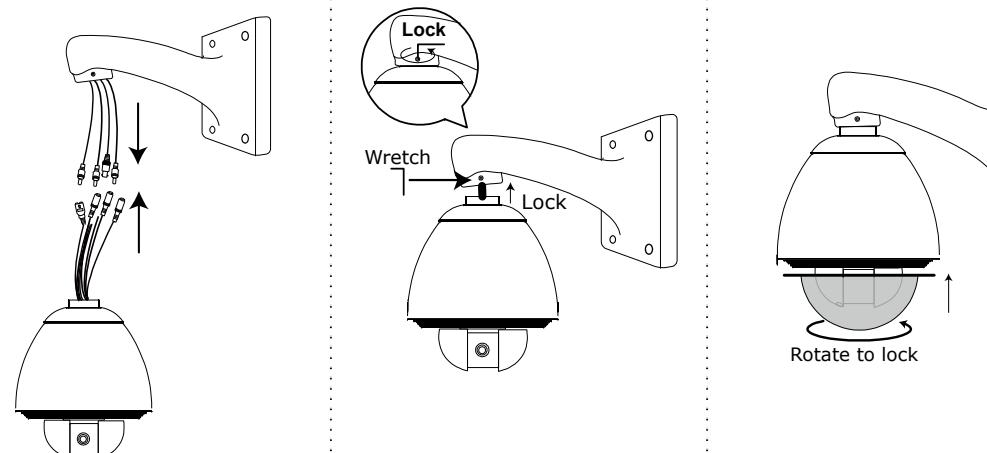

Figure 4
Step 5: Connect the cables on the wall to the cables of the camera (Figure 4).